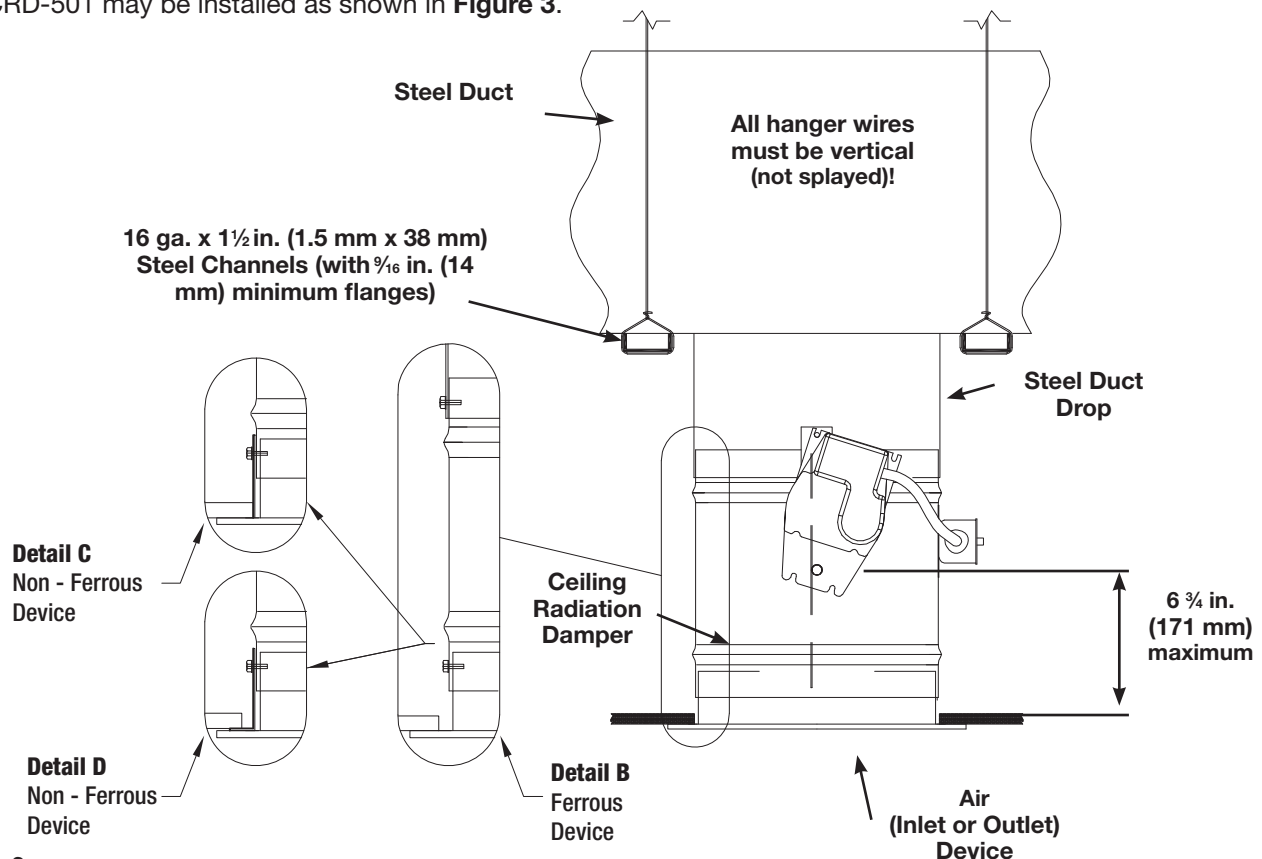

Figure 3
Ceiling radiation damper may be connected to the air device neck and then the duct drop connected to the damper (see **Figure 3, Detail B**).
- 1) A steel duct drop from the damper extension should extend to the bottom surface of the ceiling membrane and the opening in the ceiling membrane (see General Information, Ceiling Penetrations) should equal to the outside of the duct drop (see **Figure 3, Detail C**).
2. A steel angle should be attached to the bottom of the ceiling radiation damper and span the gap from the ceiling radiation damper to the bottom of the ceiling membrane. The steel angle should overlap the ceiling membrane (See **Figure 3, Detail D**).
Model CRD-501 may be installed as shown in **Figure 3**.